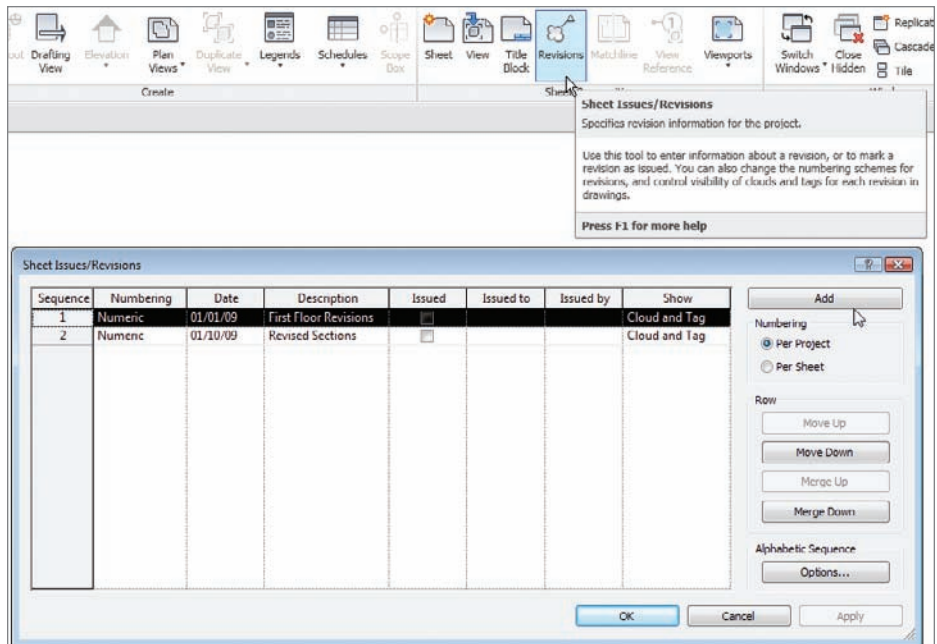

FIGURE 14.20 The Sheet Issues/Revisions dialog
1. On the View tab, click the Revisions button on the Sheet Composition panel, as shown in Figure 14.20.
4. Click the Add button, as shown in Figure 14.20.
6. For the description, enter Revised Sections (see Figure 14.20).